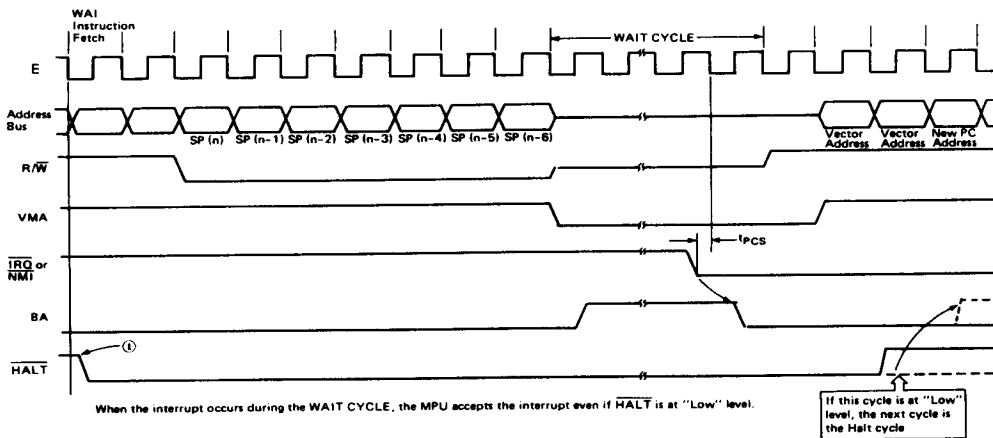

Figure 19 HD6802 WAIT CYCLE &  $\overline{\text{HALT}}$  Request
The "Halt" signal is not accepted after the fetch cycle of the WAI instruction (See ① in Fig. 19). In the case of the "WAI" instruction, the MPU enters the "WAIT" cycle after stacking the internal registers and